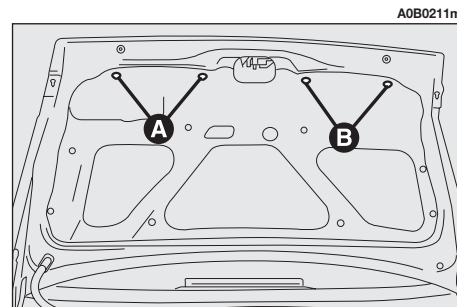

fig. 40
- Slacken the screws (**A** or **B**-fig. 40) fastening the boot trim in correspondence with the light concerned.